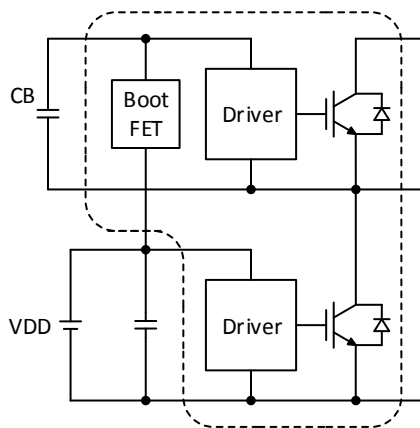

Figure 19. Boot Strap Circuit
The VBx pins are internally connected to the positive supply of the high-side drivers. The supply needs to be floating and electrically isolated. The boot-strap circuit shown in Figure 19 forms this power supply individually for every phase. Due to integrated boot FET only an external boot capacitor (CB) is required.